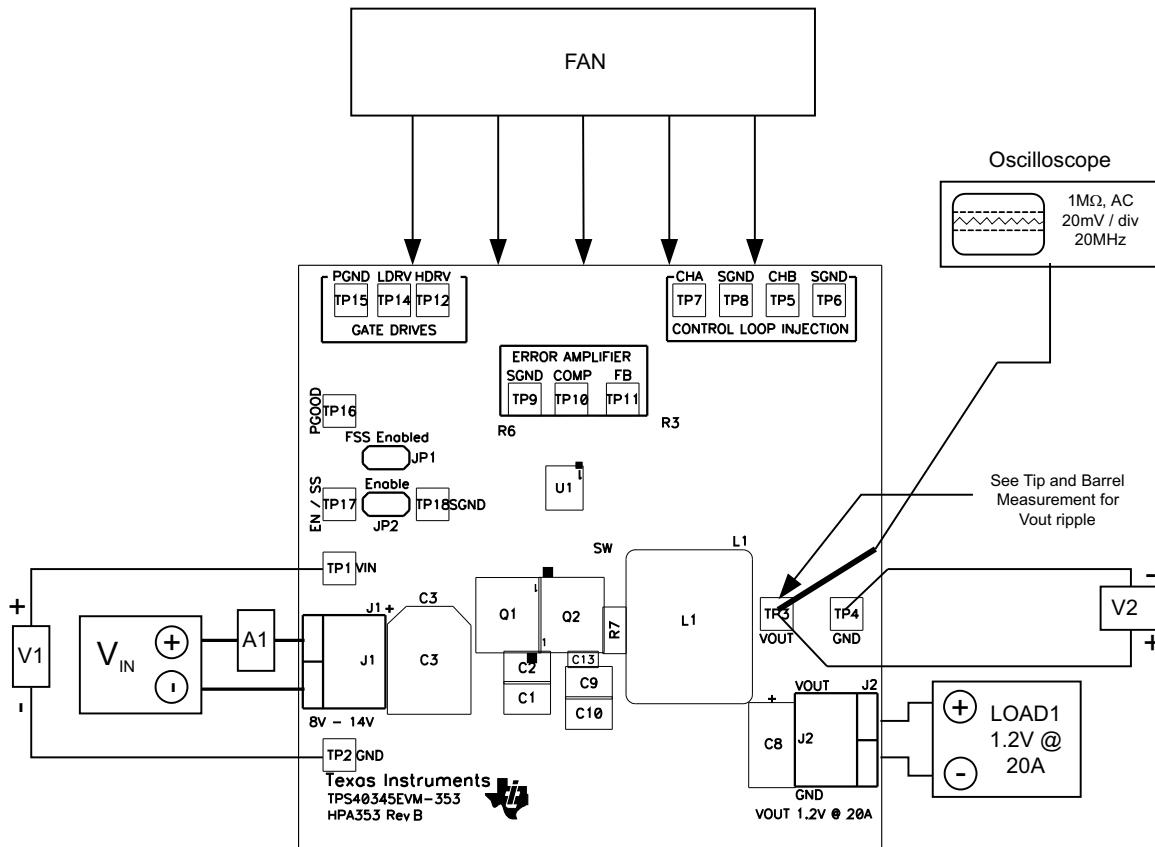

Figure 5-1. TPS40345EVM-353 Recommended Test Set-Up
Shown in Figure 5-1 is the basic test set up recommended to evaluate the TPS40345EVM-353. Note that although the return for J1 and JP2 are the same system ground, the connections should remain separate as shown in Figure 5-1.
2. Prior to connecting the dc input source, V_{IN} , it is advisable to limit the source current from V_{IN} to 4 A, maximum. Make sure V_{IN} is initially set to 0 V and connected as shown in Figure 5-1.
3. Connect VIN to J1 as shown in Figure 5-1.
4. Connect ammeter A1 between VIN and J1 as shown in Figure 5-1.
5. Connect voltmeter V1 to TP1 and TP2 as shown in Figure 5-1.
6. Connect voltmeter V2 to TP3 and TP4 as shown in Figure 5-1.
8. Place fan as shown in Figure 5-1 and turn on making sure to blow air directly across the evaluation module.